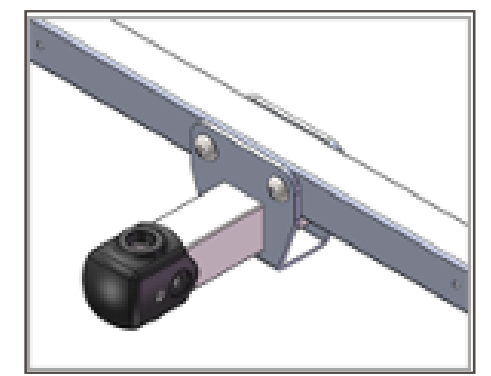

Figure 32
5. Insert the two M6 * 37mm screws (the shorter ones) through the front two holes of the stroller wheel mounting bracket, and tighten securely (Fig. 32).